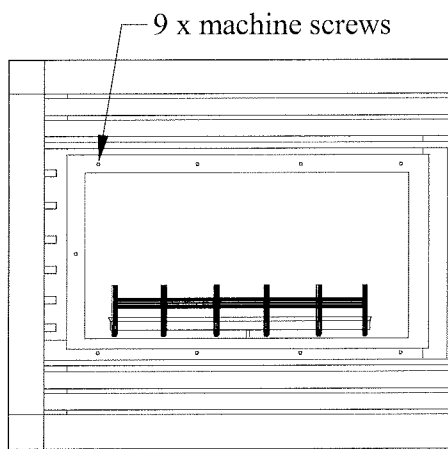

Figure 8. Removing inner doors.
The inner (combustion) doors are located behind the outer decorative doors. To remove the inner doors, simply unscrew the nine (9) machine screws on the top, bottom and side of the door. (See figure 8).